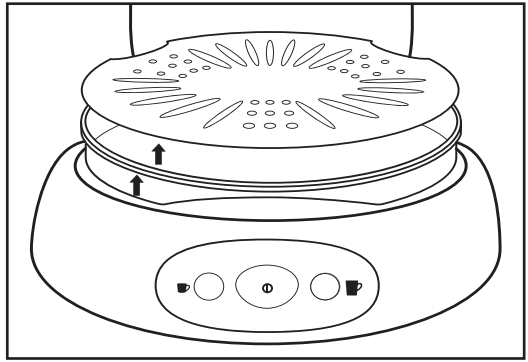

FIGURE 12
4. Remove the Drip Tray and Overflow Tray, see Figure 12.